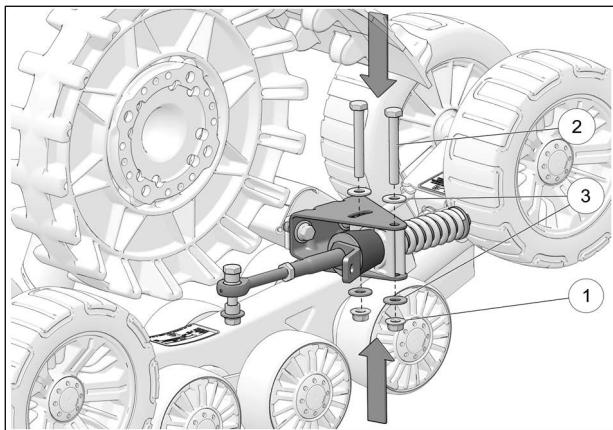

Fig. 15
6. Reinstall bolts (2), washers (3) and nuts (1) to secure anti-rotation arm to front Track system. See Fig. 15